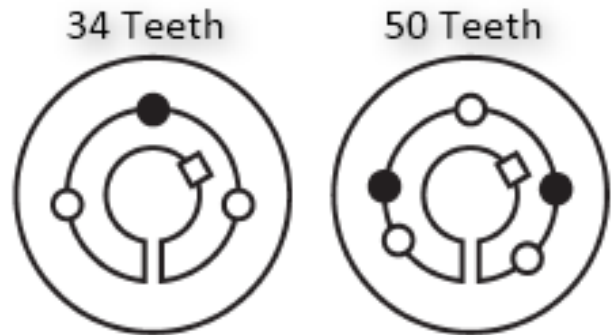

Figure 20
3. Insert the screws into the jack screw holes as indicated by a black dot on Figure 20.
4. Lightly oil the screws and thread them into the half-threaded holes indicated by a white dot on Figure 20.